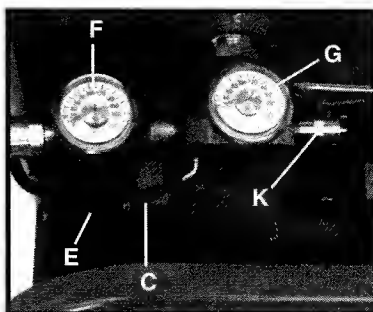

Fig. 3
**ON/AUTO - OFF Switch (C) Fig. 3:** Turn this switch ON to provide power to the automatic pressure switch and OFF to remove power at the end of each use.
**Regulator (E) Fig. 3:** The air pressure coming from the air tank is controlled by the regulator. Turn the regulator knob clockwise to increase pressure and counterclockwise to decrease pressure. To avoid minor readjustment after making a change in pressure setting, always approach the desired pressure from a lower pressure. When reducing from a higher to a lower setting, first reduce to pressure less than that desired, then bring it up to the desired pressure. Depending on the air requirements of each particular accessory, the outlet regulated air pressure may have to be adjusted while operating the accessory.
**Outlet Pressure Gauge (F) Fig. 3:** The outlet pressure gauge indicates the air pressure available at the outlet side of the regulator. This pressure is controlled by the regulator and is always less than or equal to the tank pressure. See "Operating Procedures".
**Tank Pressure Gauge (G) Fig. 3:** The tank pressure gauge indicates the reserve air pressure in the tank.
**Safety Valve (K) Fig. 3:** If the pressure switch does not shut off the air compressor at its cutout pressure setting, the safety valve will protect against high pressure by “popping out” at its factory set pressure (slightly higher than the pressure switch cut-out setting).